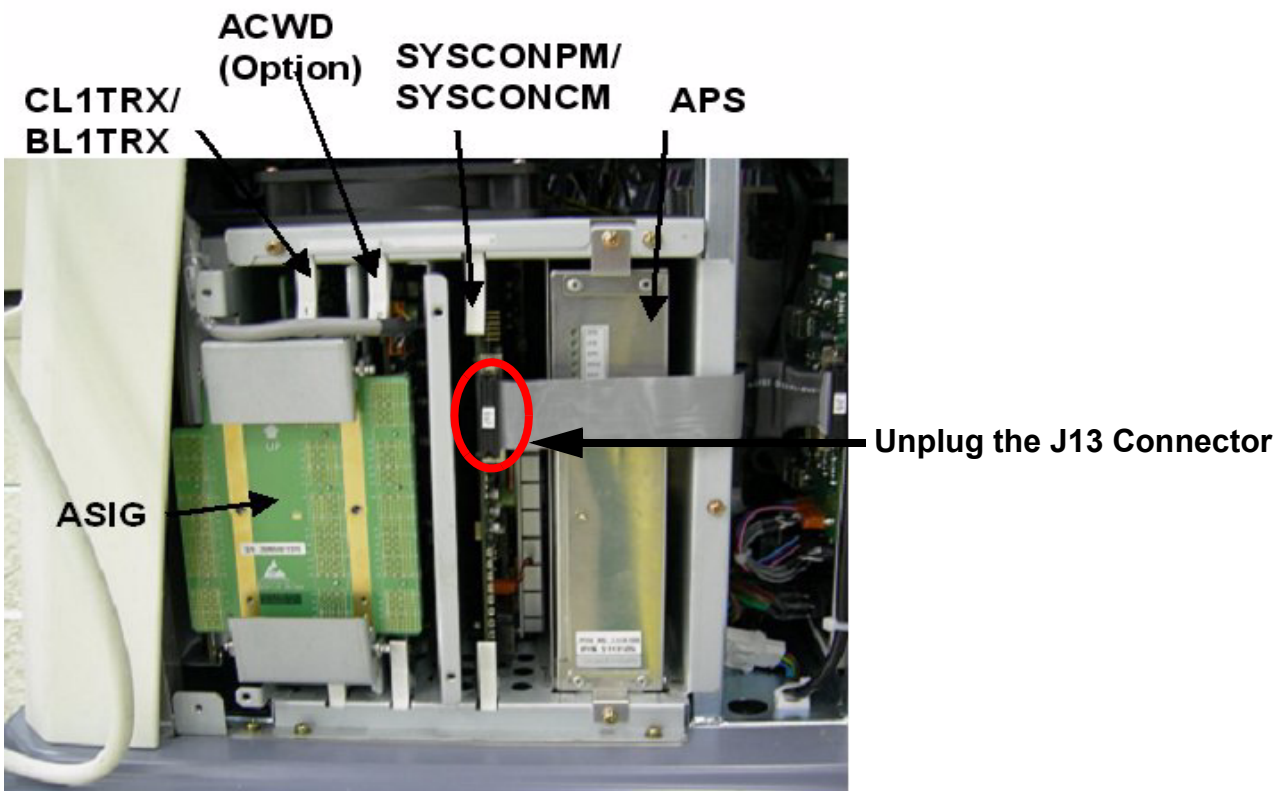

Figure 8-123 Pull out the SYSCONPM(SYSCONCM) Assy
- 3.) Unplug the J13 connector. Refer to the Figure 8-123.